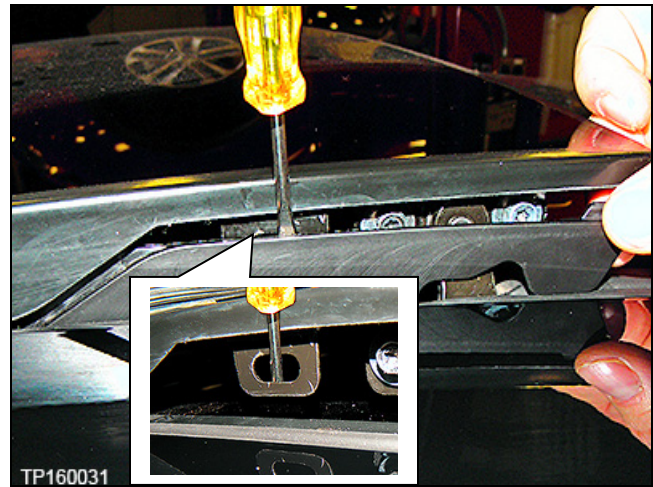

Figure 43
- f. Insert the pocket screw driver through the hole in the steel tab to release the retaining clip (Figure 43).